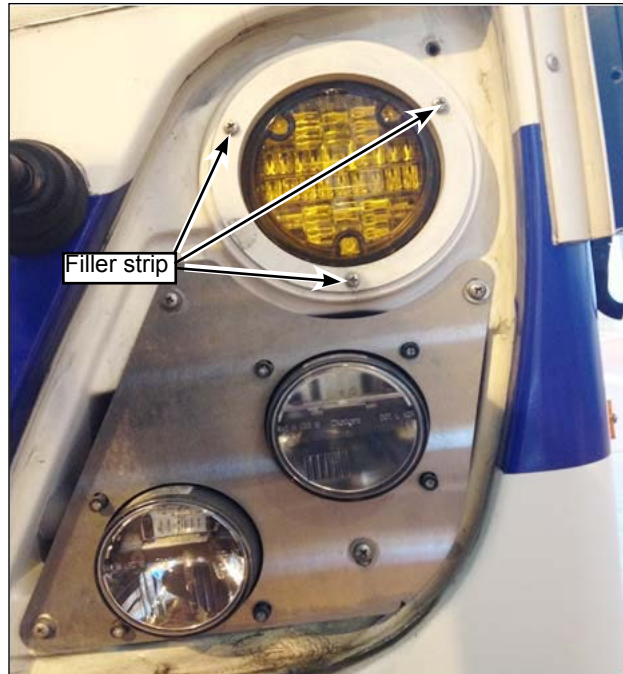

Figure 33 - Install Marker Lights
- 1.34. Reinstall the marker light with the three screws that were removed, on both the street side and the curb side (see Figure 33).